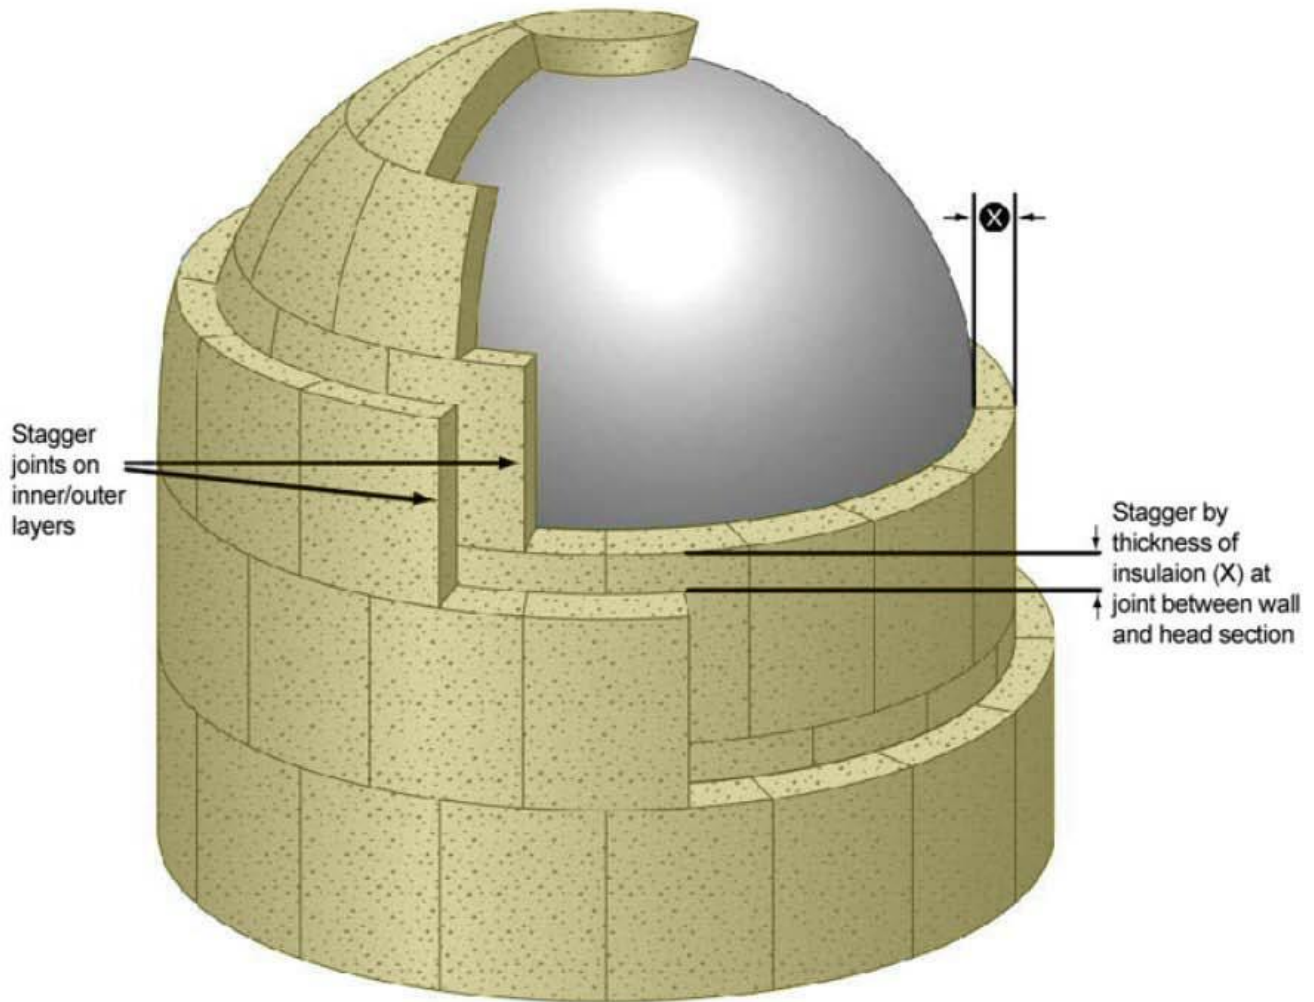

**Figure 4**
- 4.1.7 Elbows and fittings shall be wrapped with Saran 520 Vapor Retarder Tape. See Section 3.4.3 for Saran tape usage. Saran 520 tape shall be wrapped in a spiral configuration. When Saran Vapor Retarder is factory-applied, lap joint shall be sealed with SSL tape. Apply Saran 520 tape around the butt joint with a ¼ circumference overlap. See details in Figure 3 and Figure 4 in Appendix B.